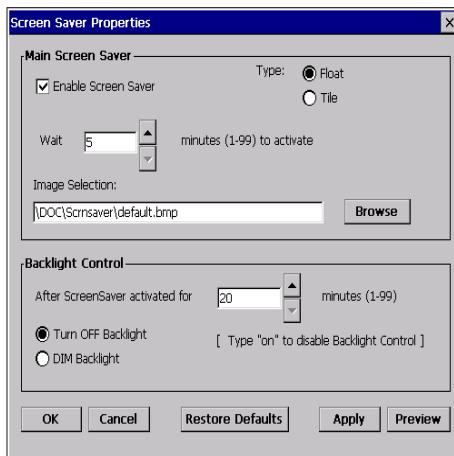

Figure 4-14: The Windows CE Screen Saver and Backlight Controls
- The Screen Saver Properties window appears. An example of this screen, with the default settings, is shown in Figure 4-14, below.